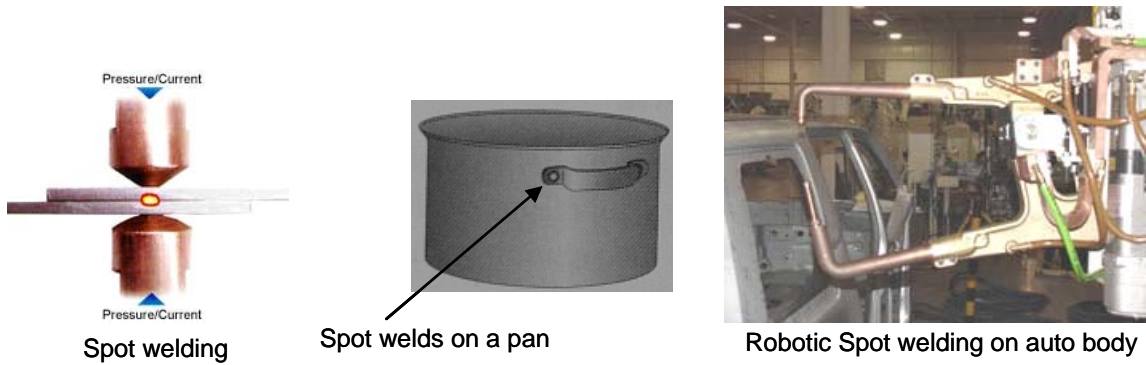
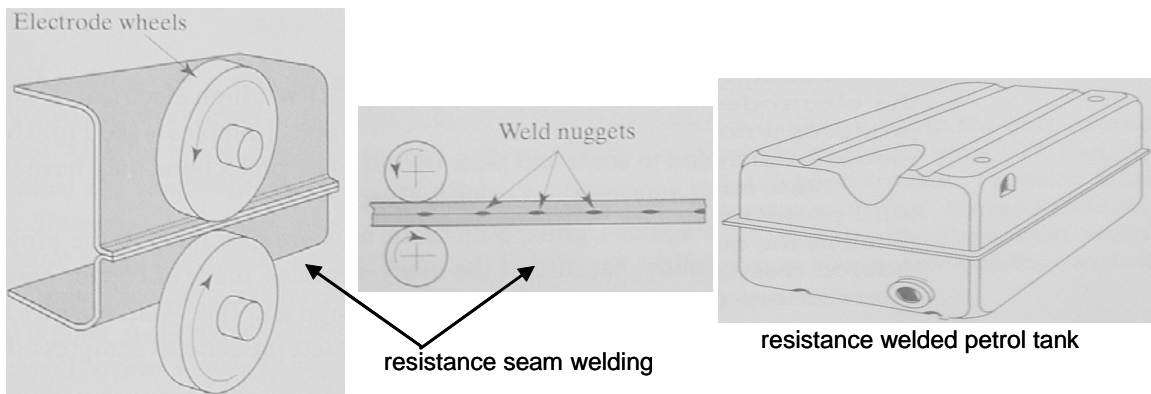

Figure 6. (a) Spot welding (b) and (c) Examples of resistance welding
Figure 7. Seam welding (a type of resistance welding) [source: Kalpakjian & Schmid]
3.2.3. Resistance welding. Here, metal strips are welded by holding them together by a force, and raising their temperature by passing a current through the interface. Resistance welding is commonly used in several applications, to make butt joints, lap joints, seam joints etc. Examples include pan-handle welding, automobile mufflers, band-saw blades, seam-joints in automobile bodies and automobile components, etc. Some examples are shown in Figure 6 and Figure 7 below.